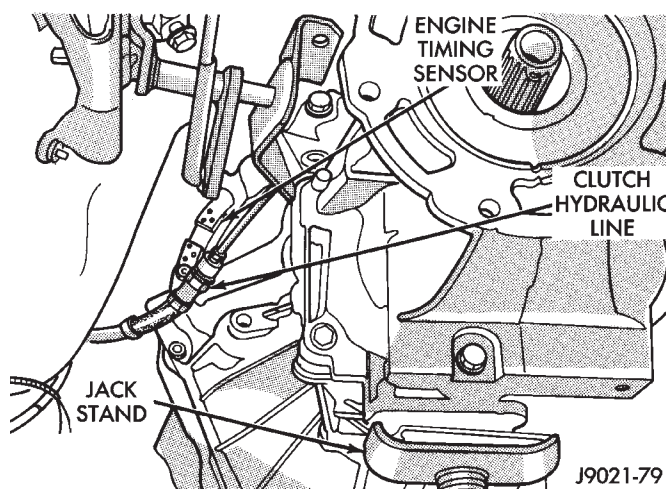

Fig. 4 Timing Sensor Location
(12) Remove crankshaft position/engine timing sensor (Fig. 4).
(13) Disconnect transmission and transfer case vent hoses.
(14) Remove slave cylinder from clutch housing.